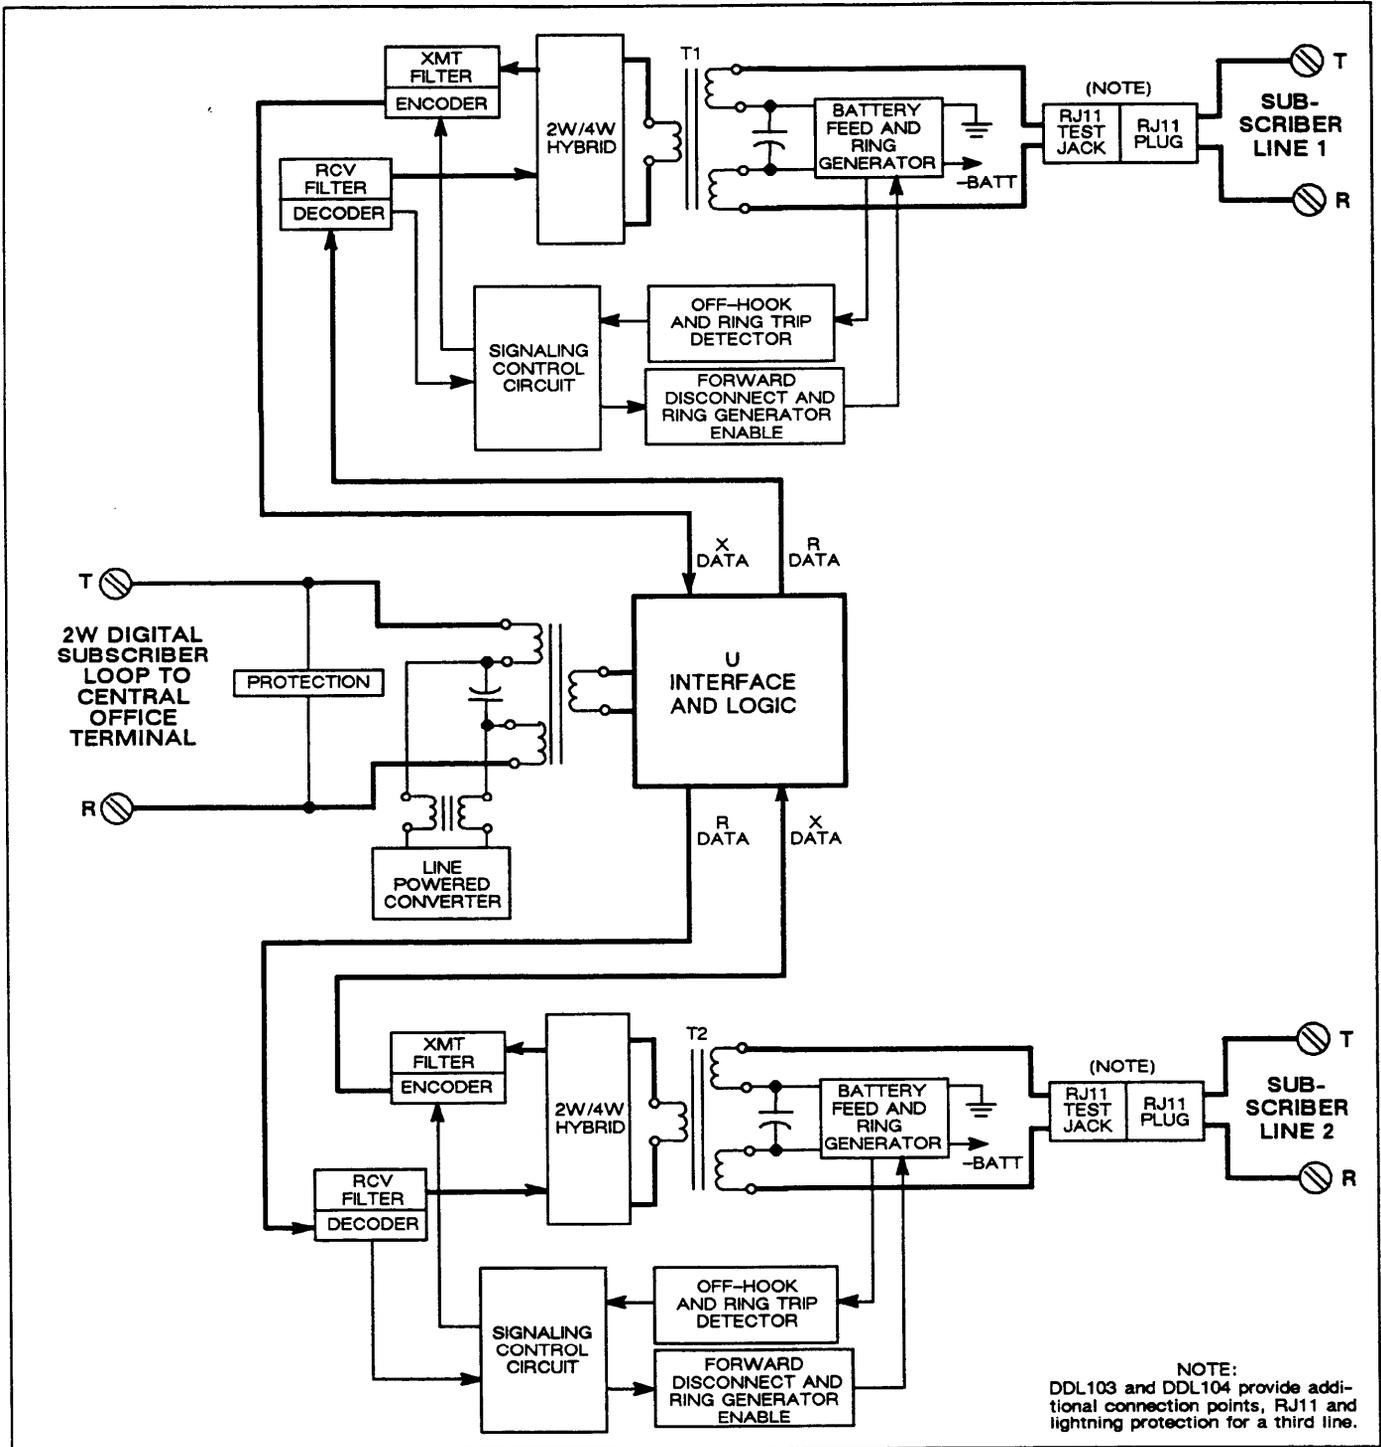

Figure 5. DDL101, DDL102, DDL111 and DDL112 RT Block Diagram
3.02 The RT (Remote Terminal) voice frequency analog signal from the subscriber line is applied to a 2-wire/4-wire hybrid circuit (see Figure 5). The hybrid circuit separates the transmit analog signal from the receive analog signal. The transmit analog signal is applied to an encoder which converts the signal to a mu-law 64 kb/s digital signal. The encoder combines the 64 kb/s signal with the subscriber on-hook, off-hook status. This signal is then applied to the U interface.